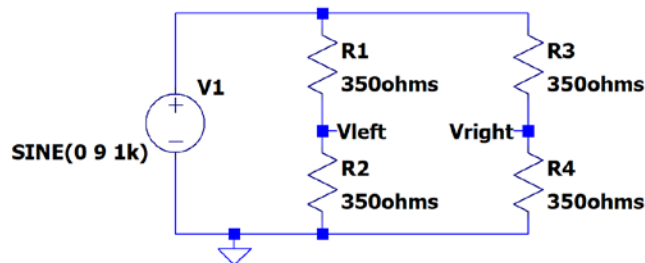

Figure A-1.
Bridges and Voltage Dividers: In Experiment 1, we looked at one of the simplest useful circuits – the voltage divider. In many simple applications of electronics, we have only a small number of standard voltages in whatever circuits we are building. When we use a 9V battery or V+ on the M2k/Analog Discovery as our source, we have only one voltage level available, unless we use a voltage divider to get smaller voltages. We can also use a divider, to measure resistance, if we have some device with an unknown resistance. For example, if we connect an unknown resistor in series with a known resistor, then the voltage across the unknown resistor can tell us the value of the resistance. An even better measurement can be done by combining two voltage dividers in a configuration like the one shown in figure A-1, which you should recognize as being made from two dividers. Note that if $R1 = R2 = R3 = R4$, the voltages at the two points marked Vleft and Vright will be equal to half of the source voltage. Thus, their difference should be zero. Whenever the voltage difference $dV = V_{left} - V_{right}$ across a bridge output is zero, we say that the bridge is *balanced*. If one of the resistors (e.g. R4) is slightly larger or slightly smaller than the other three resistors, the output voltage dV will not be zero and becomes, as we shall see, a very sensitive measure of the difference in resistance.
- Set up the circuit shown in Figure A-1.
The beam has two strain gauges wired together, replacing R3 and R4 in Figure A-1 of this document. It also has two matched 350Ω resistors. These are R1 and R2 of Figure A-1. The signals from the strain gauges are small, so a difference amp with a gain of 100 is required.